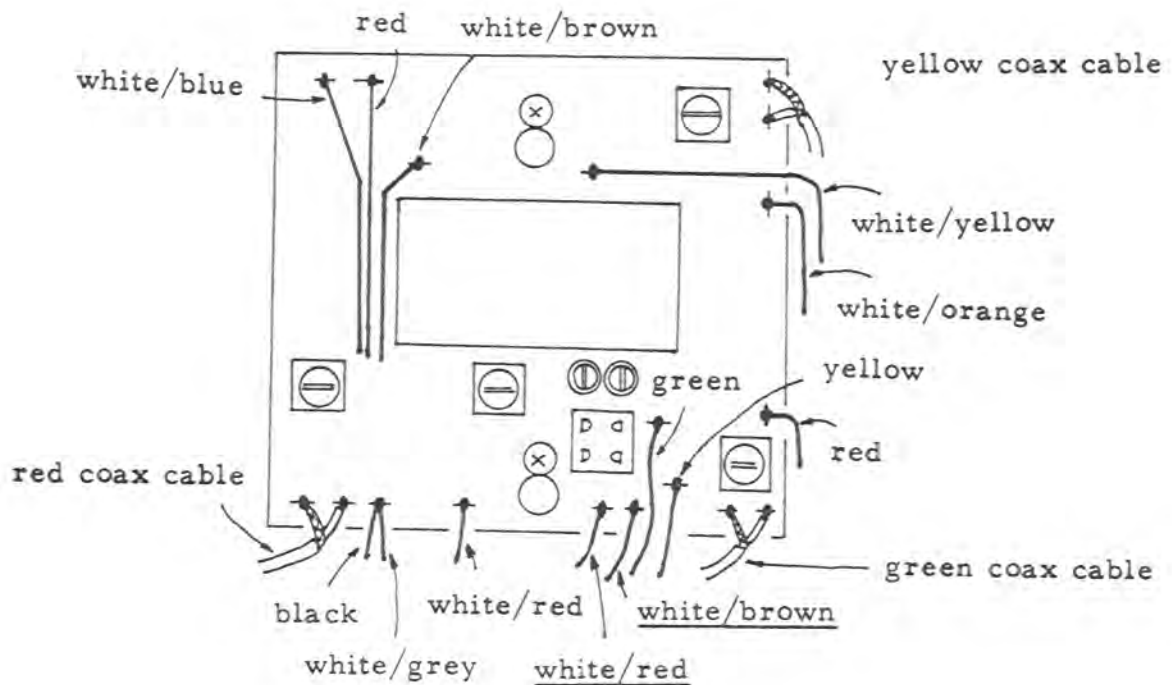

Fig. 6-10
4. Wire as illustrated in Fig. 6-10. Underlined wires are from VFO select switch and the others are from the wire harness.